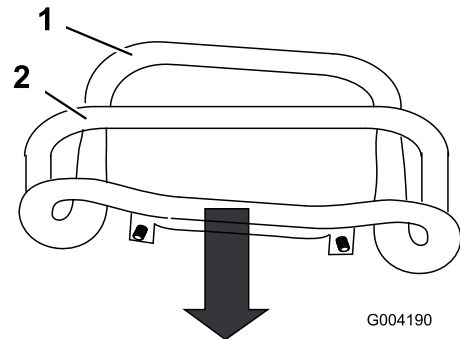

Figure 66
3. Pull straight back on the traction control so the front of the control contacts the reference bar (Figure 66).